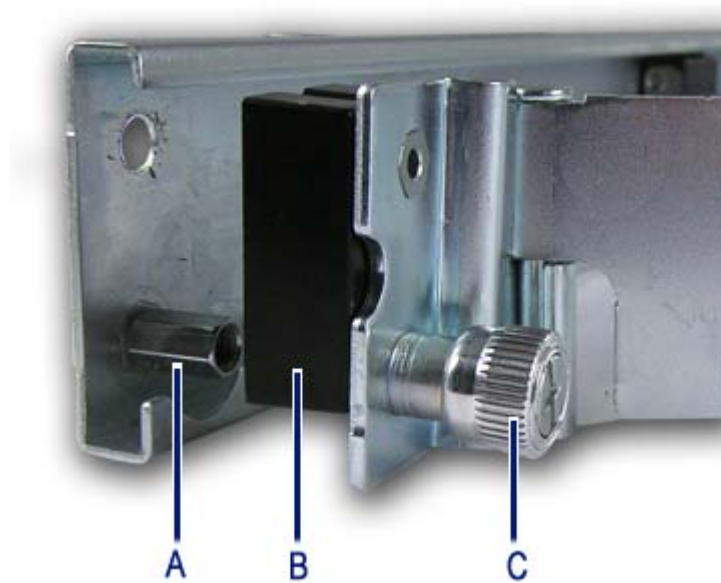

Figure 57: Installing the Spacer Block
4. Attach the cable arm (along with the spacer block) to the rear of the sliding rail using the captive thumbscrews (letter “A” on Figure 57).